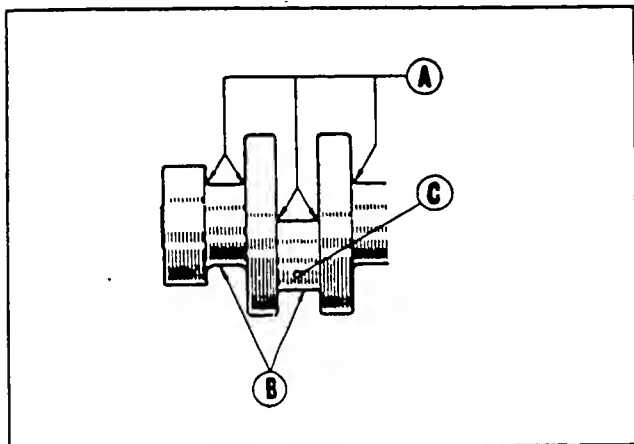

Figure 27. Crankshaft Grinding
3. When grinding the crankshaft, the following specifications apply (Figure 27):